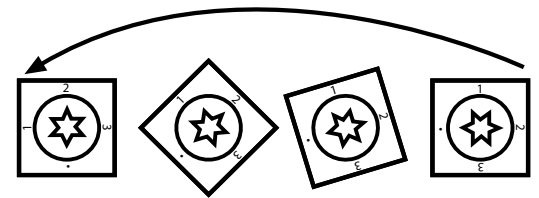

FIGURE 15
3. If cutter insert is damaged, replace it with a new one. If it is not damaged, rotate it as shown in Fig.15.